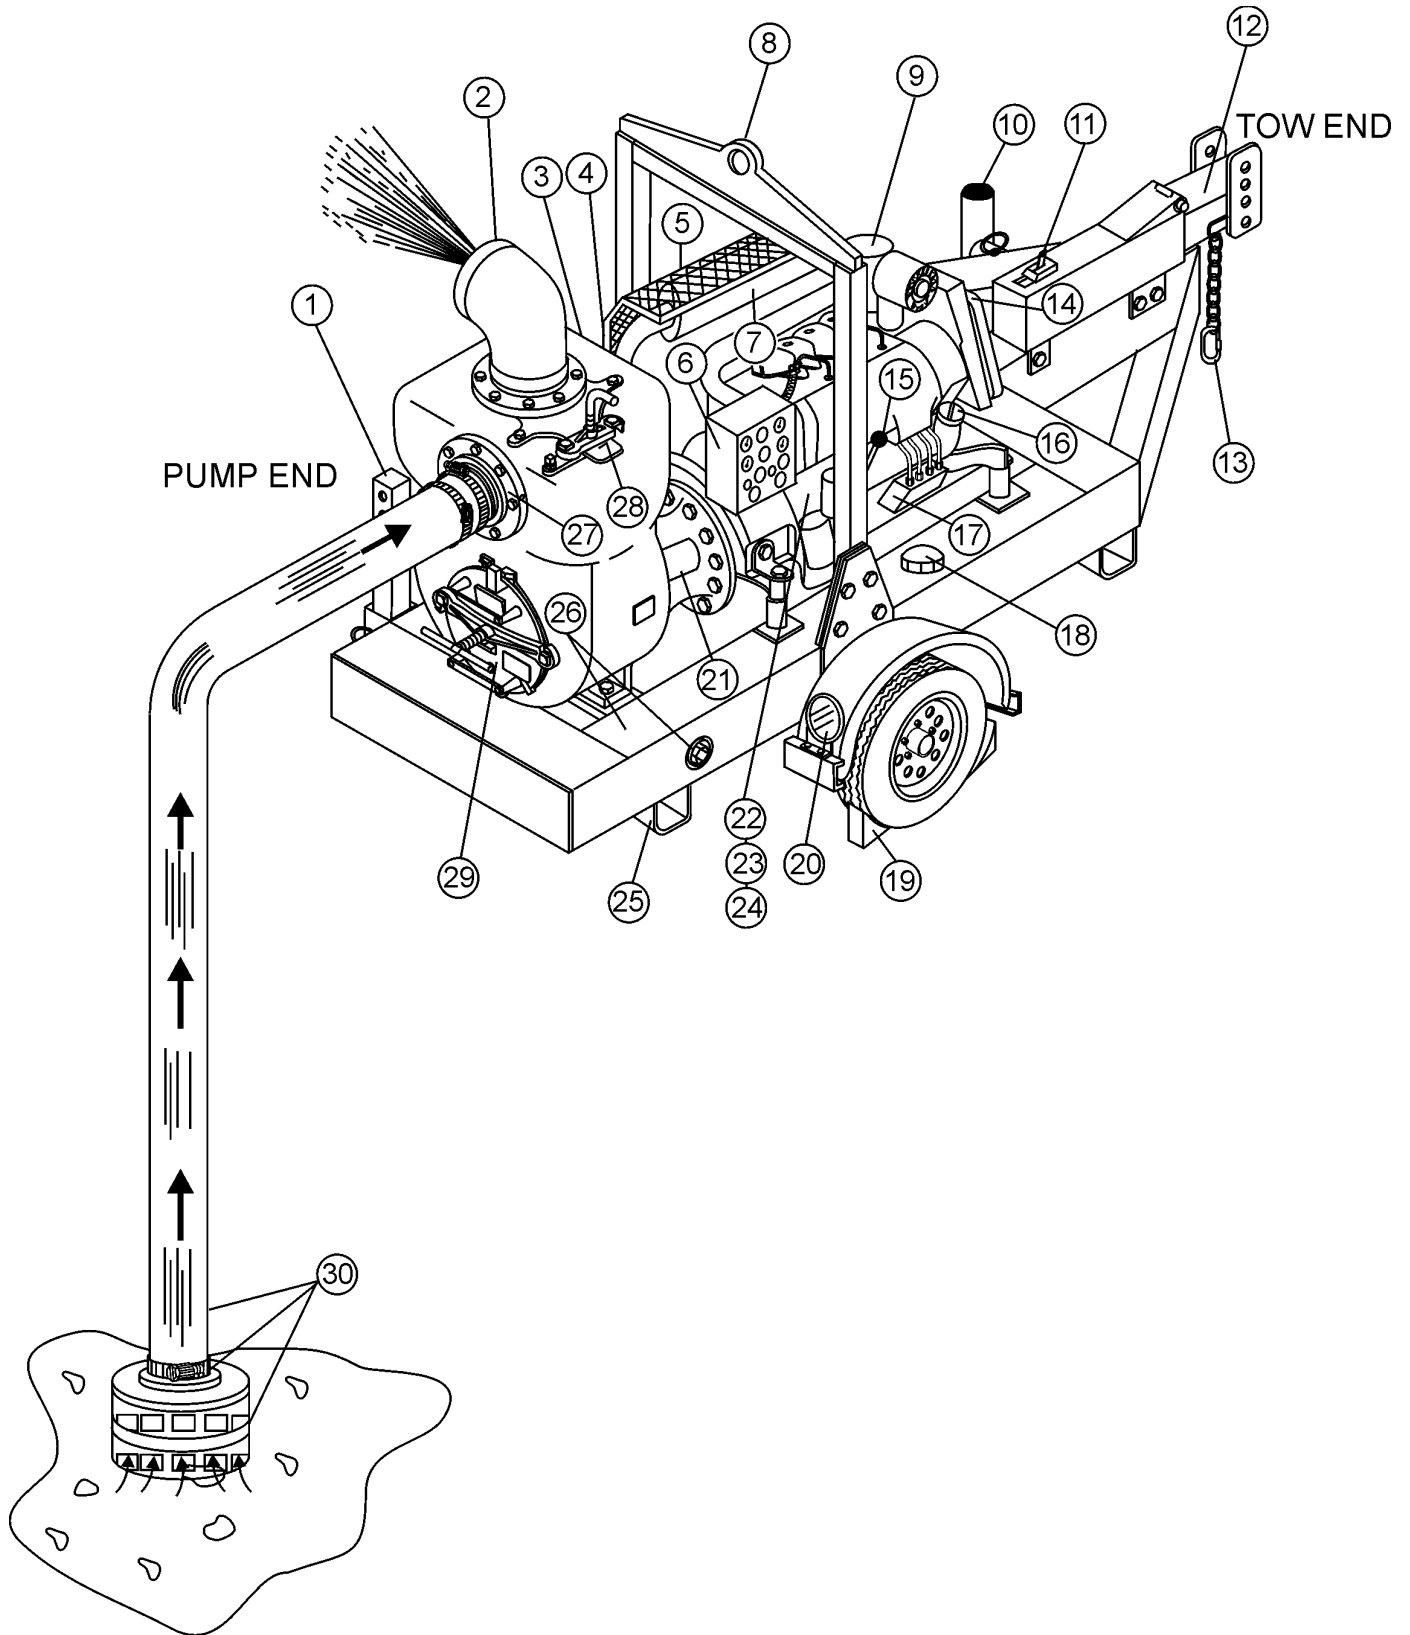

Figure 3. Pump Components
Figure 3 shows the location of the components and basic components for the MQ600TD80 trash pump. The function of each component or control is described below:
3. To prime pump, remove fill cap (Figure 3) and fill pump case with water. If the pump case is not filled with water before starting, it will not begin pumping.
1. Check that all hoses are **securely** attached to the pump. Make certain suction hose (Figure 3) does not have any air leakage. Tighten hose clamps and couplings as required.
4. Check that the **discharge** hose (Figure 3) is not restricted. Place hose so that it lays as straight as it is possible on the ground. Remove any twists or sharp bends from hose which may block the flow of water.
6. Make sure the **suction strainer** (Figure 3) is clean and securely attached to the water end of the suction hose. The strainer is designed to protect the pump by preventing large objects from being pulled into the pump.